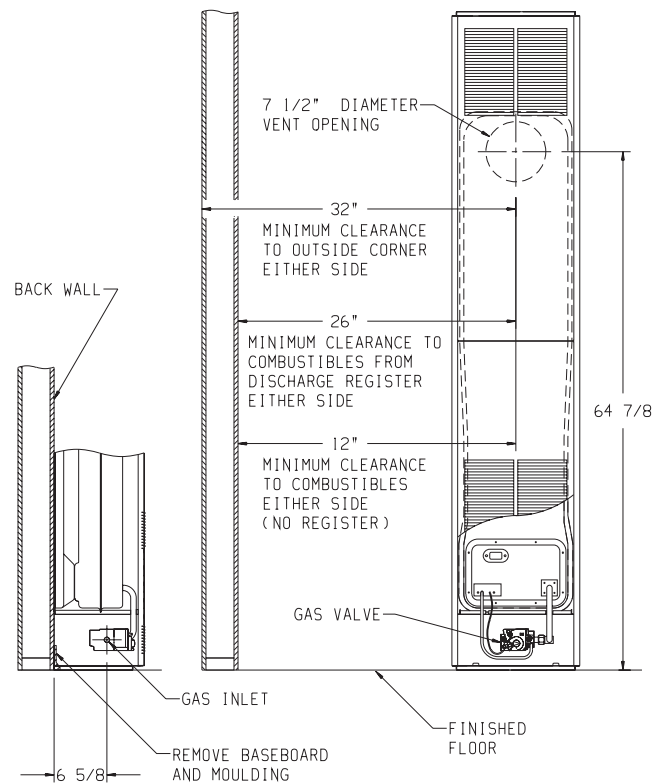

Figure 5
The furnace is to be located on an outside wall. Locate wall studs so that wall opening will be located between wall studs. The furnace is 16 inches in width and normal 16 inches on center studs will not allow the furnace to be recessed into the wall unless a stud is repositioned. The wall opening required as shown in Figure 5 is a diameter of 7 1/2 inches.
A template is provided in furnace carton for positioning furnace on the wall. Also, refer to Figure 5 for positioning the furnace on wall and for locating gas line connection.
Refer to Figure 5 for the location of the 7 1/2" diameter wall opening for the furnace. After the wall opening has been located and cut, position flue outlet on furnace in center of wall opening. When attaching furnace to the wall remove that portion of baseboard and molding on the wall which is behind the furnace. Attach furnace to wall, at the outer casing top, with (2) toggle bolts provided and to floor, at the outer casing bottom, with (2) #10 x 1 1/2" screws provided.